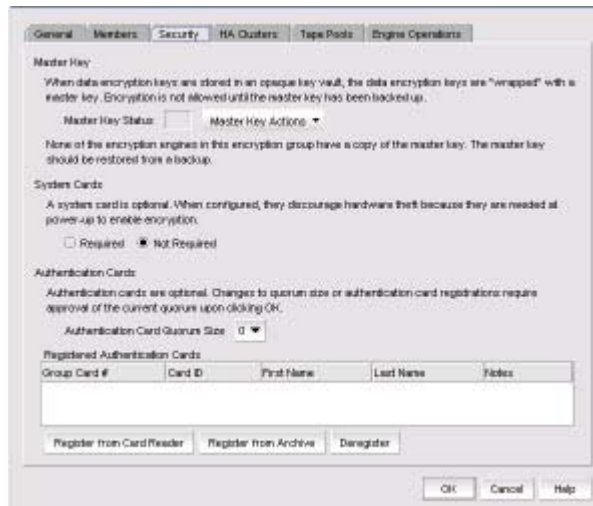

FIGURE 198 Encryption Group Properties dialog box - Security tab
2. Select an encryption group from the **Encryption Center Devices** table, then select **Group > Security** from the menu task bar to display the **Encryption Group Properties** dialog box. The **Security** tab is selected. (Refer to Figure 198.)